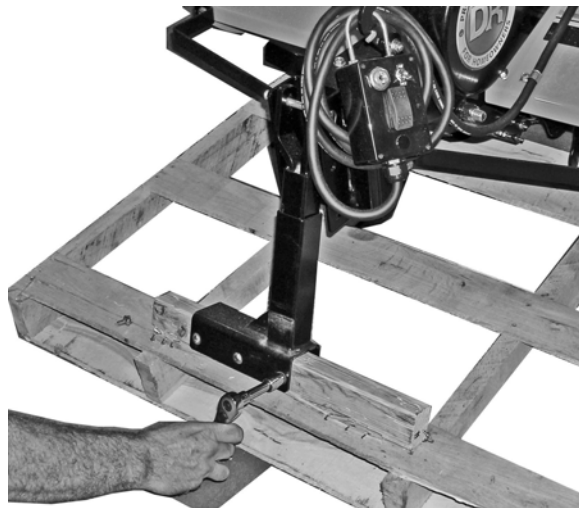

Figure 5
6. Using a 1/2" Wrench or Socket, remove the three (3) screws securing the SMOOTH-TRAK™ Hitch to the shipping pallet (**Figure 5**).